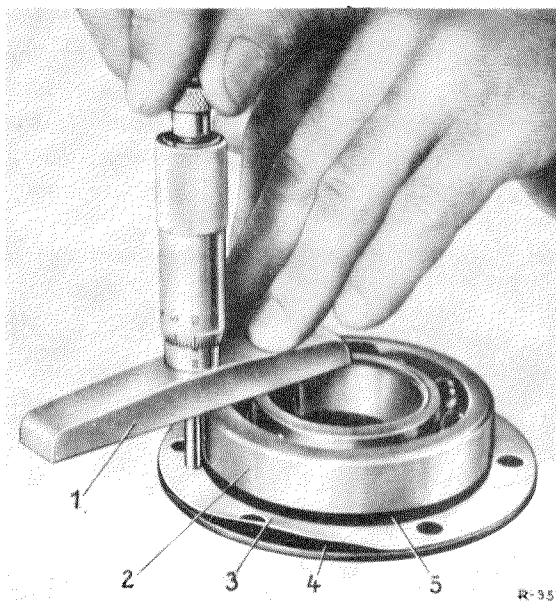

Fig. 35 — 5/7
In order to check, place the seal (3) and the annular grooved bearing (2) on the seal retainer and use a depth gage or a micrometer depth gage to measure the distance between the outer race of the annular grooved bearing and the separating surface of the seal retainer (Fig. 35 — 5/7).
4. Check the parallelism of the axis of the axle tube and the center line of the supporting tube. To do this, insert the measuring spindle (2) of Axle Tube Checking Device 180 589 09 21 for Single-jointed Swing Axle in the bearing bore of the axle tube. The gage arm (1) of the checking device must slide onto the measuring spindle (2) and the supporting tube (4) without forcing (Fig. 35 — 5/8).